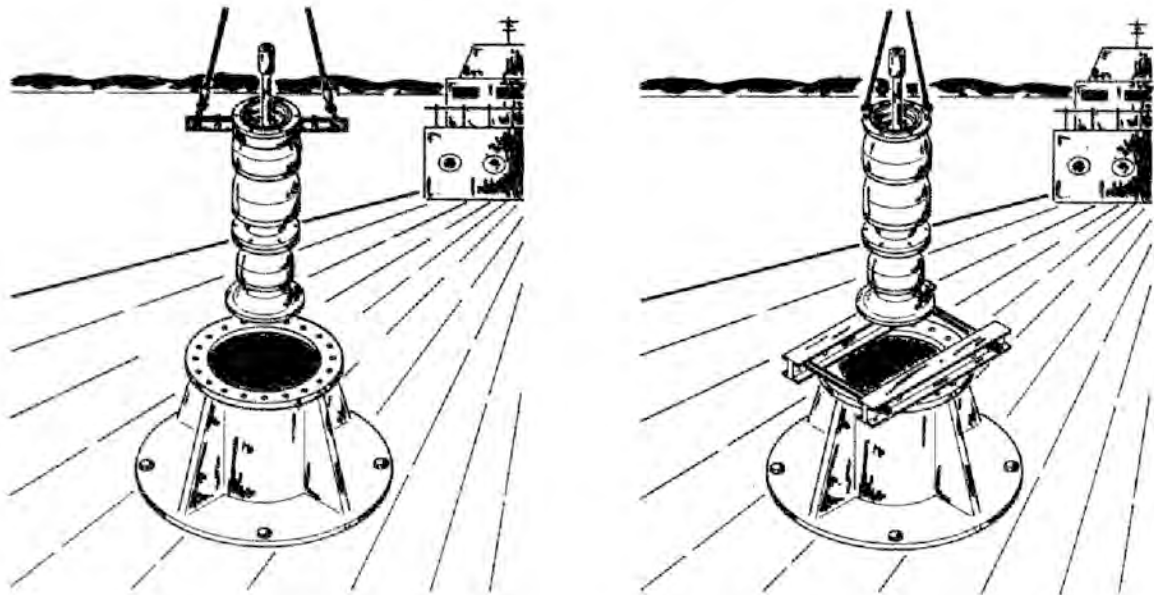

Figure 3: Bowl assembly installation
6. Place bearing retainer (652) with bearing (653) over lineshaft (646) and locate it in the bottom column (644) flange register.
7. Install threaded coupling (649) on protruding end of lineshaft (646) as required, (see Figure 3: Bowl assembly installation on page 17. Repeat Figure 3: Bowl assembly installation on page 17 Step 5.